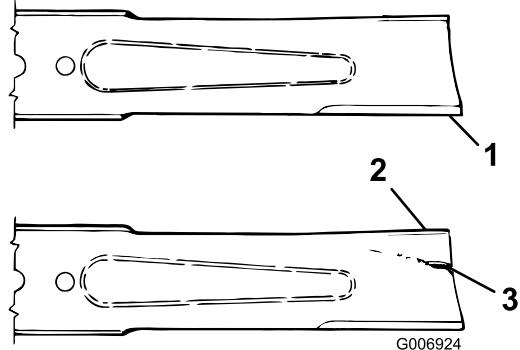

Figure 32
2. Inspect the cutting edges (Figure 32). If the edges are not sharp or have nicks, remove the blades and sharpen them; refer to Sharpening the Blades.
3. Inspect the blades, especially the curved area (Figure 32). If you notice any damage, wear, or a slot forming in this area (Figure 32), immediately install a new blade.